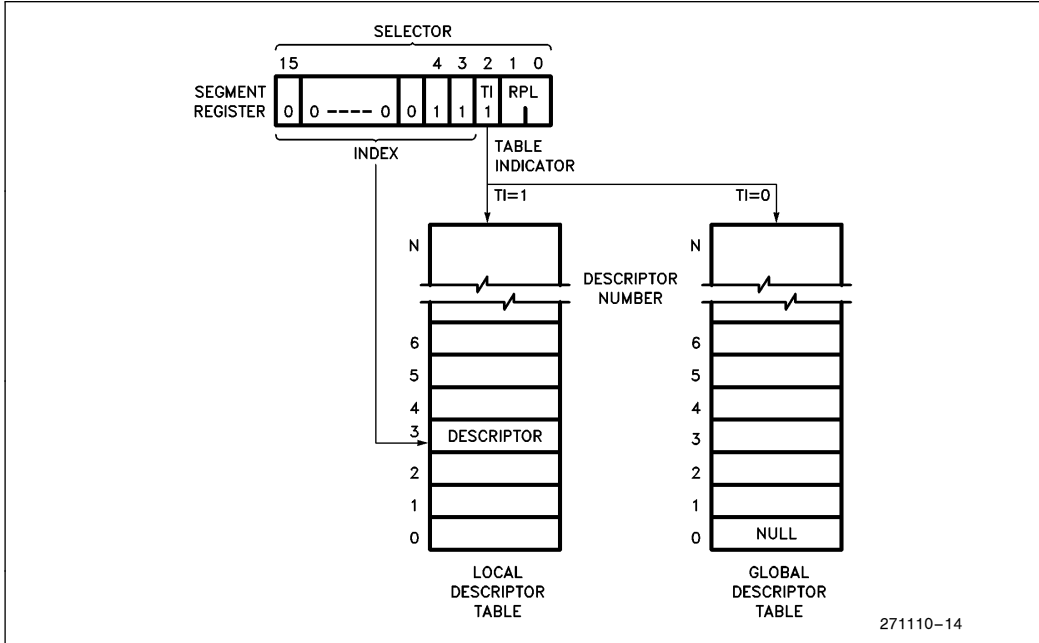

Figure 4.7. Example Descriptor Selection
A selector in Protected Mode has three fields: Local or Global Descriptor Table indicator (TI), Descriptor Entry Index (Index), and Requestor (the selector's) Privilege Level (RPL) as shown in Figure 4.7. The TI bit selects either the Global Descriptor Table or the Local Descriptor Table. The Index selects one of 8K descriptors in the appropriate descriptor table. The RPL bits allow high speed testing of the selector's privilege attributes.